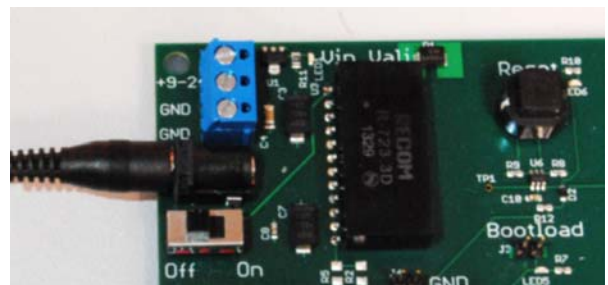

Figure 4. Power Cable Connection
3. Connect the power cable provided in the kit to the power port, as shown in Figure 4. Plug the other end of the power cord into a wall socket.